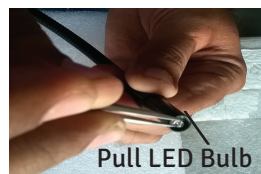

Figure 27a Changing Target Light LED
2. Pull out the defective LED and replace with new LED. refer fig.27a. Thread in the LED cap back.